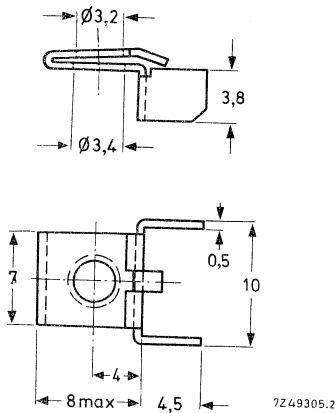

Fig. 5 Metal mounting bracket
- metal bracket, catalogue number 4332 026 06540 (Figs 5 and 6).